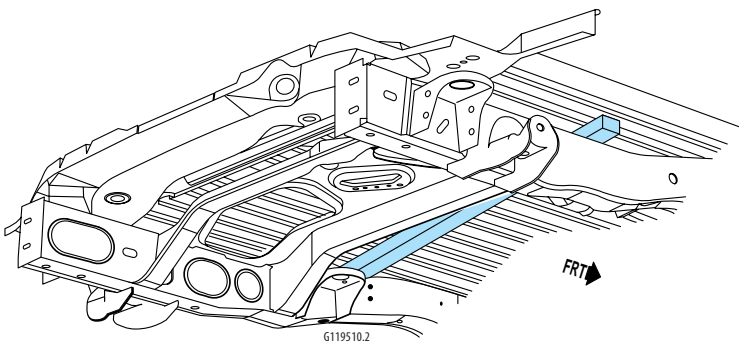

Figure 10-2:
5. Loosen all body to frame mount bolts, remove all but the two in the radiator core support and the two front body bolts. Lift body off the frame, place 4x4 wood blocks to support the body as in (figure 10-2).